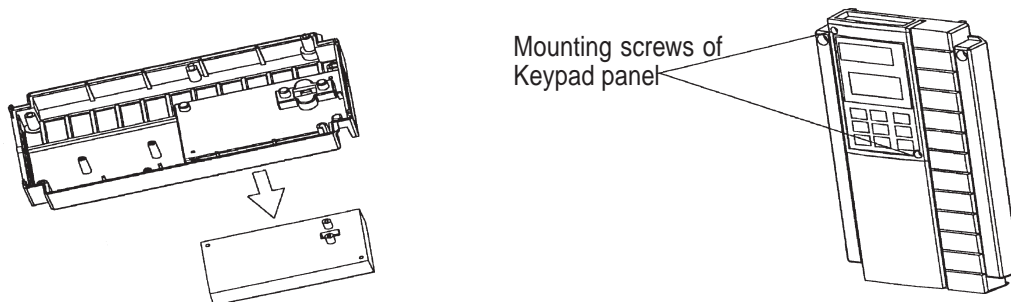

Fig.1-3-3 Removing the Keypad Panel (for drives 30HP or less)
(2) Removing the Keypad Panel
After removing the cover as explained in (1), loosen the keypad panel mounting screws and remove as shown in Figure 1.3.3 for drives 40HP or less.